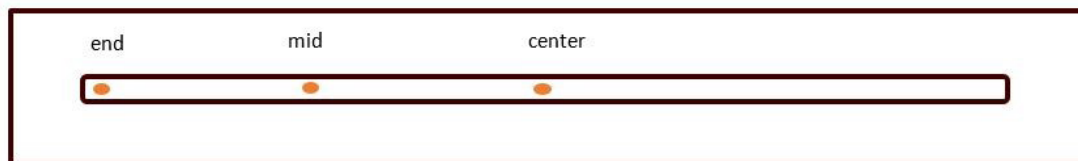
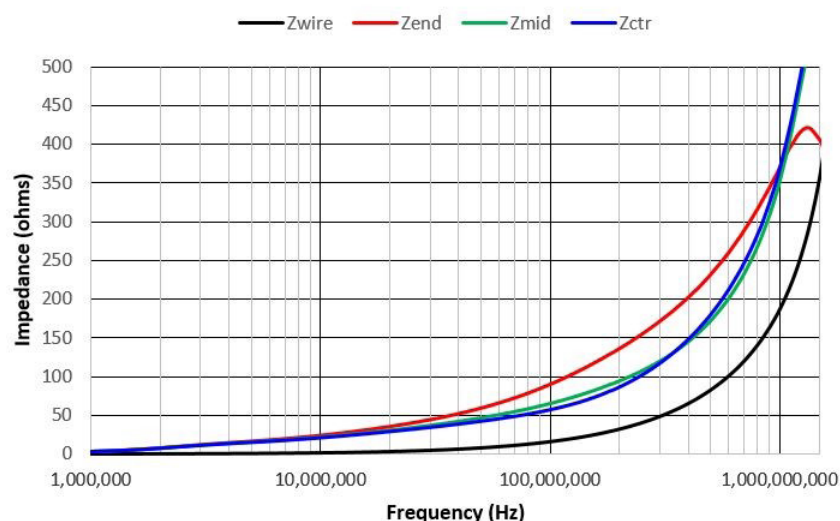

Figure 1
Figure 2
The first evaluation was performed using Fair-Rite® PN 2643169351 (single piece flat cable suppression core). This part has a rectangular outer envelope 33.7 x 6.7 x 13.2mm length and the slot is 27.5 x 1.35 mm. The diameter of the test wire is 0.65 mm. Tests were performed at three locations within the aperture/slot using test wire length of 38 mm (1.5") as shown in figure 1.
Figure 2 shows the Impedance (Z) as measured by the test wire by itself and with the 2643169351 ferrite core in the three locations shown in Figure 1. Figure 3 shows the same data from Figure 2 with the complex impedance of the wire by itself subtracted from the wire with core measurements.